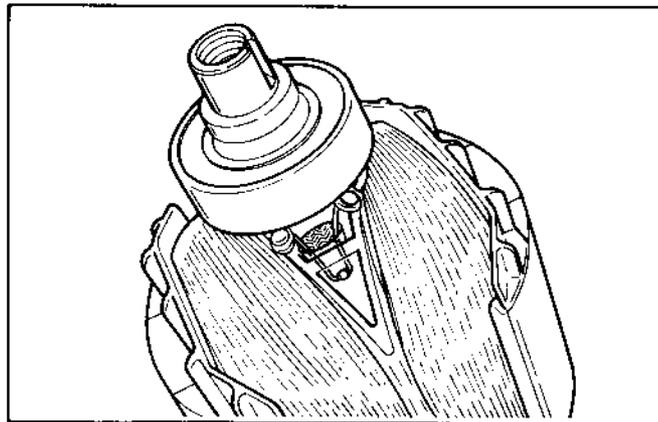

Fig. 11-3
(1) CHECKING FIELD COIL
- Unsolder the coil ends from the terminals on the rotor. (See Fig. 11-3.)